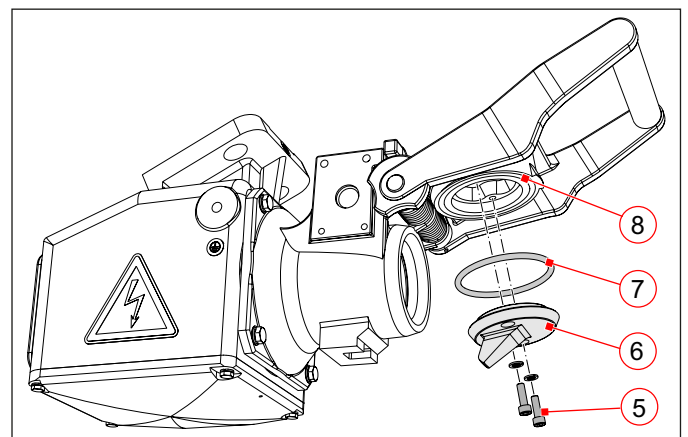

Fig. 48: Replace the sealing ring (7) for the receptacle lid
Replace the sealing ring for the receptacle lid (Fig. 48)
- ▶ For this, release the 2 cylinder screws M6 x 10 (5) of the locking washer (6) using a hexagon socket wrench and remove the old locking washer.
- ▶ Check the sealing ring (20) for damages. In the case of damages, replace the sealing ring (see section "Replace the sealing ring for the receptacle lid (Fig. 48)" on page 38).
- ▶ Attach a new locking washer (19), observing the mounting position, and screw on with the cylinder screws (18) including spring lock washers.